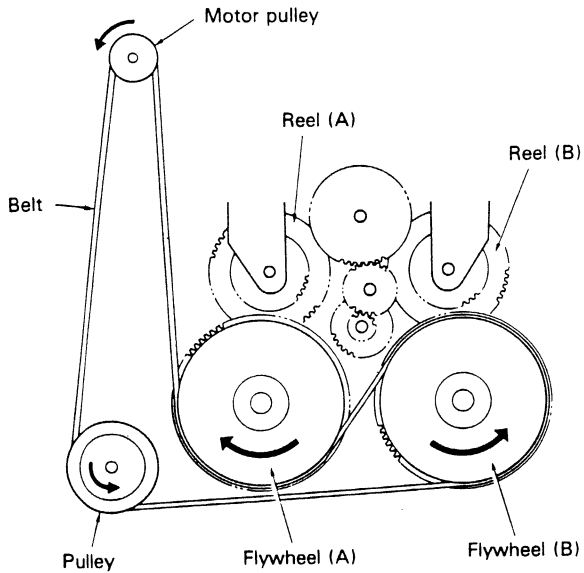

Fig. 20
1. Upon loading the cassette, the tape power switch is moved to the "on" position and the motor is activated, causing movement in the directions indicated by the arrows in Figure 20. Flywheel (A) moves in the FWD direction while flywheel (B) moves in the REV direction.